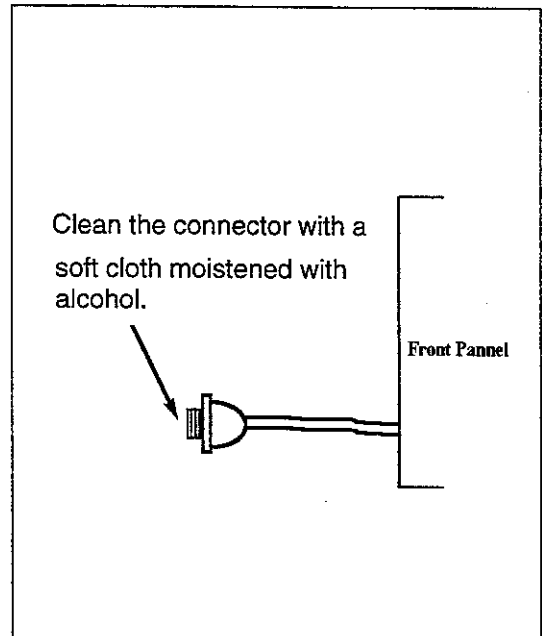

Figure 2-5 Connector Cleaning (4)
- (4) Clean the connector with a soft cloth moistened with alcohol. Take care not to damage the connector. (See Figure 2-5.)
- (5) Engage the cleaned connector with the receptacle and tighten the screw.
- (6) Attach the receptacle to the front panel and fix it with the two screws.